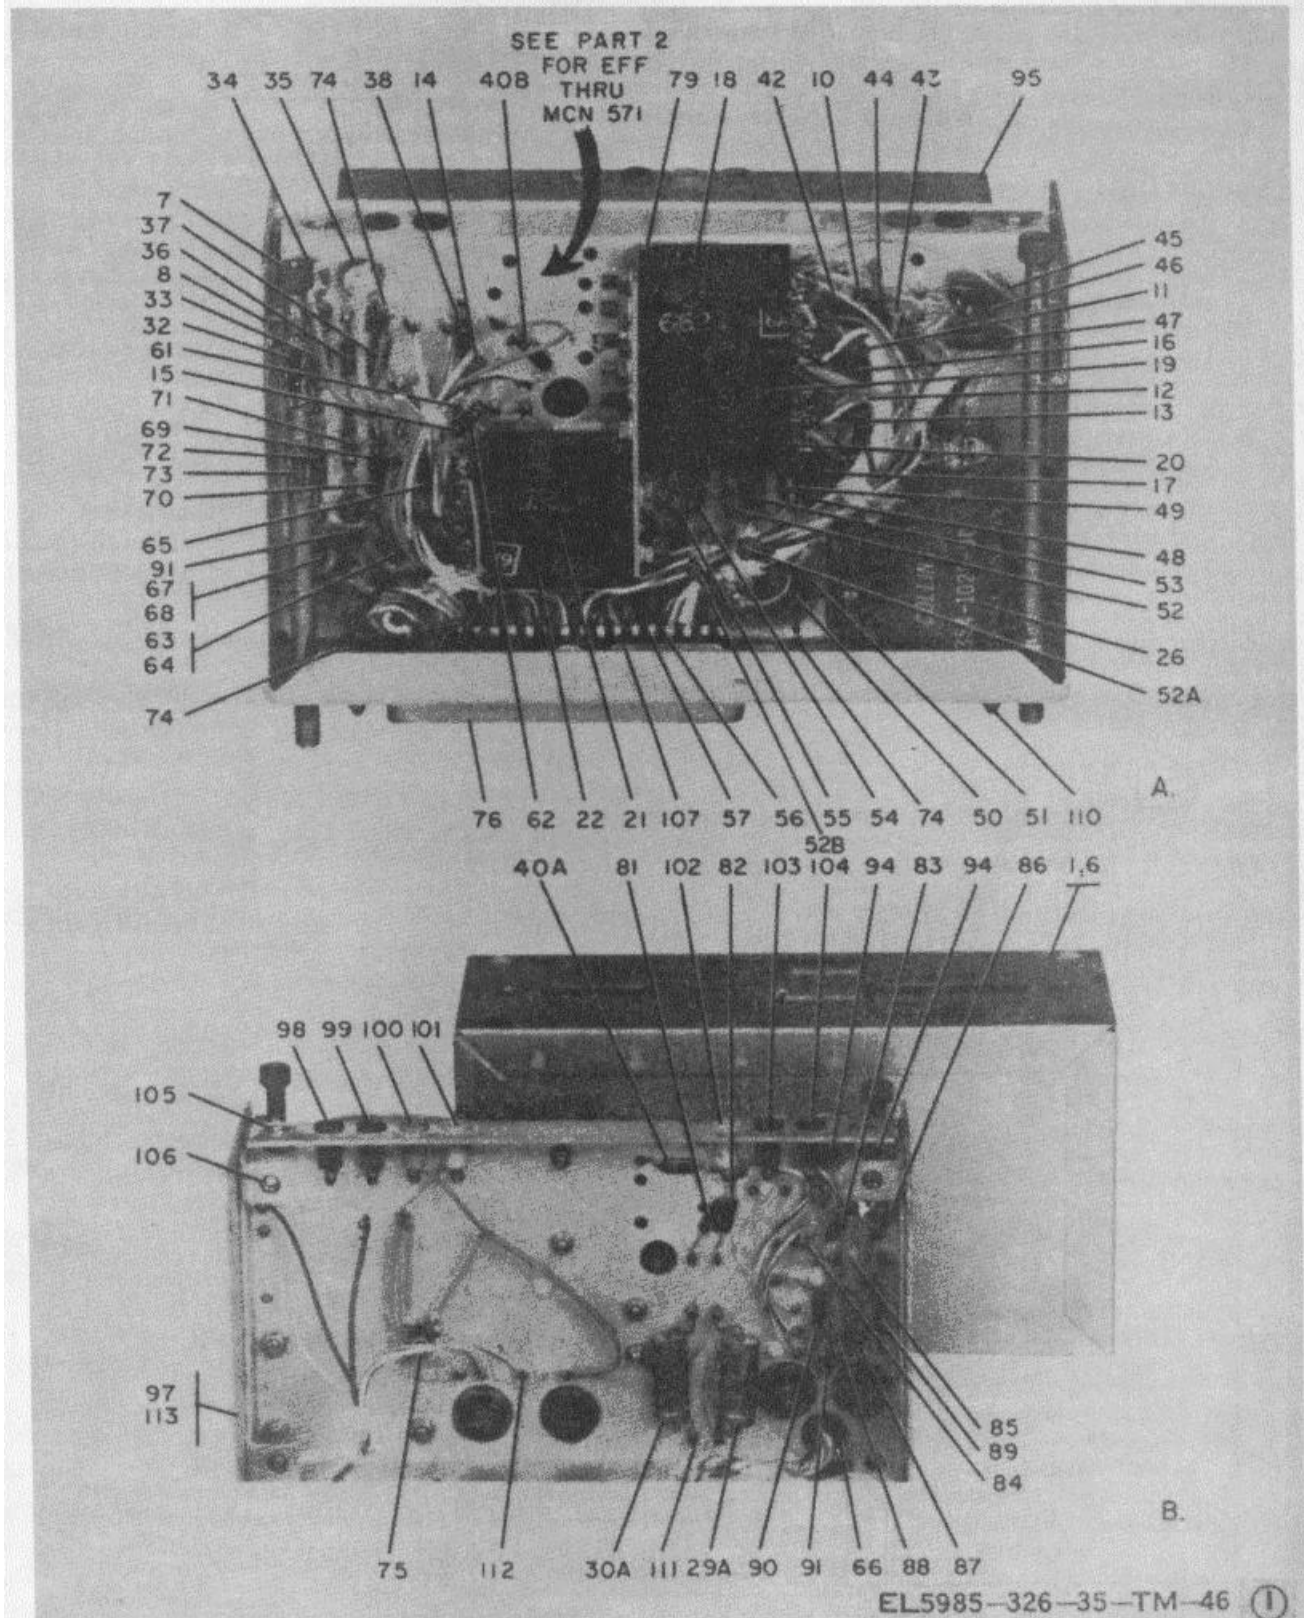

Figure 4-7(1). Control Amplifier A3 (Part Number 528-0467-000), Parts Location (Part 1 of 2).
Legend for figures 4-7(1) and 4-7(2):